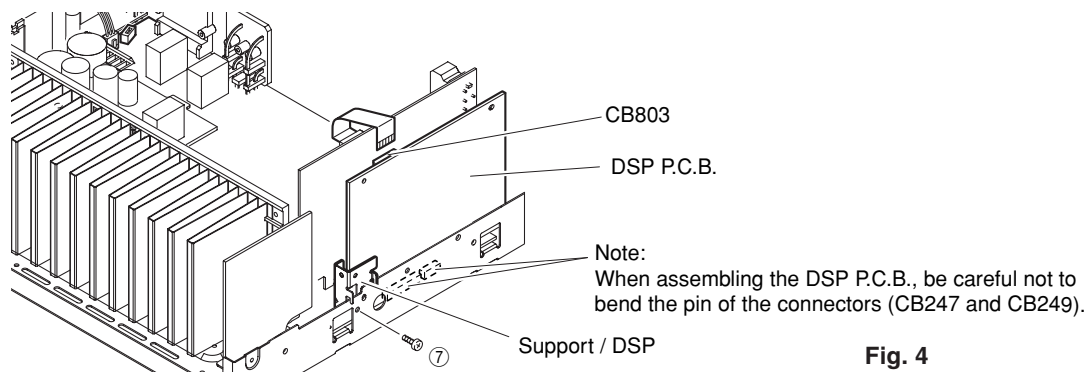

Fig. 4
- a. Remove 1 screw (⑦). (Fig. 4)
- b. Remove CB803. (Fig. 4)
- c. Remove the DSP P.C.B. with the Support/DSP. (Fig. 4)
- c. Remove 1 screw (⑦). (Fig. 4)